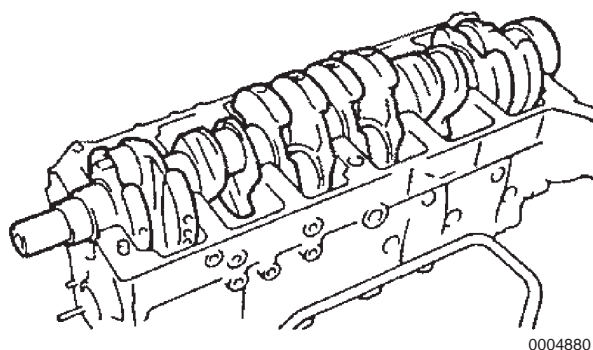

Figure 5-98
28. Lift and remove the crankshaft (**Figure 5-98**).